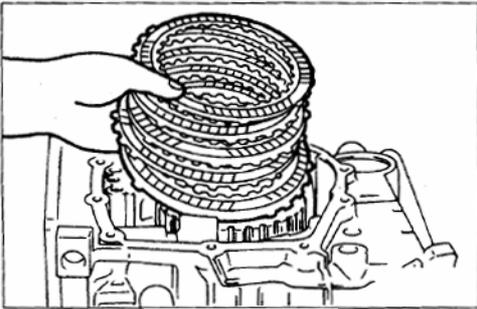

Fig 11A-84
(31) Install snap ring. See Fig.11A-85.